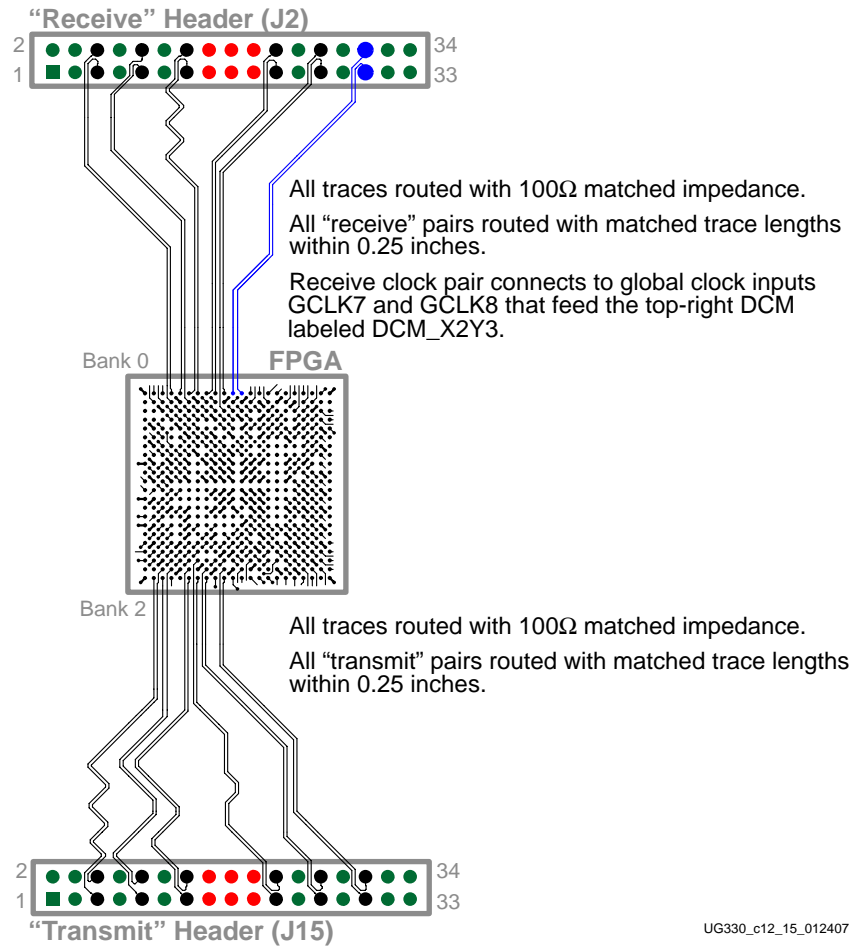

Figure 15-6: Differential I/O Layout
Figure 15-6 shows board layout extracted from the Spartan-3A Starter Kit board that highlights the differential I/O signal traces. These traces were routed for optimal signal integrity.
- The “Receive” differential clock pair, highlighted in blue in Figure 15-6, connects to a differential global clock input pair, GCLK7 and GCLK8. Using these global clock